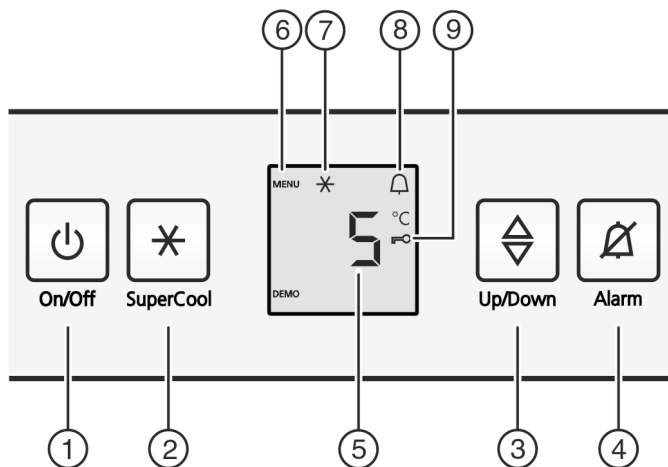

Fig. 2
- ▶ Press the On/Off button Fig. 2 (1).
- ▶ Press the SuperCool button Fig. 2 (2) for about 5 seconds.
- ▷ The Menu symbol is shown on the display, Fig. 2 (6).
- ▶ Confirm briefly with the SuperCool button Fig. 2 (2).
- ▷ The child lock symbol, Fig. 2 (9), lights up on the display.
- ▶ Briefly press the On/Off button *Fig. 2 (1)*.
- ▶ Press alarm button *Fig. 2 (4)*.
- ▶ Call up temperature function: press the setting button *Fig. 2 (3)*.
- ▶ Change the temperature in 1 °C steps: Press the setting button *Fig. 2 (3)* until the required temperature is indicated in the temperature display.